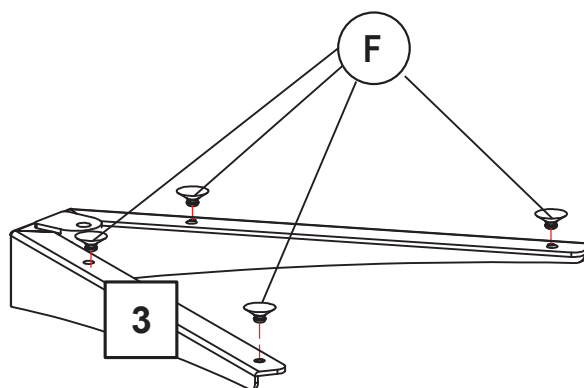

Fig. 6
Insert the four **Glass Shelf Suction Pads (F)** into the holes on the **Shelf Support (3)** as shown in Fig. 6.